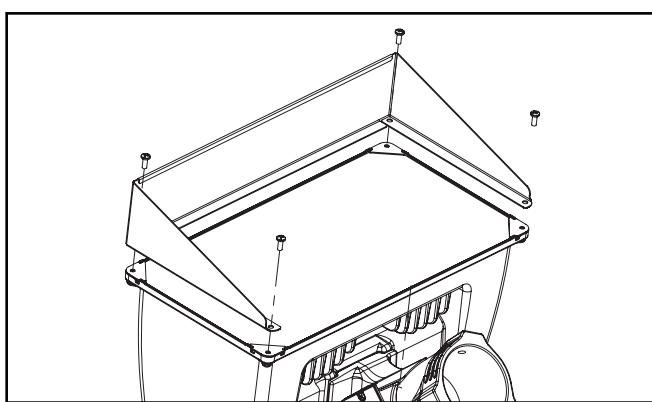

Figure 7.
### Visor (Figure 7.)
1. Loosen and remove the existing (4) 10-24 Philips head screws on the face of the fixture and retain for future reference.
2. Align visor on top of lens clips matching the 4 existing holes. See Figure 7.